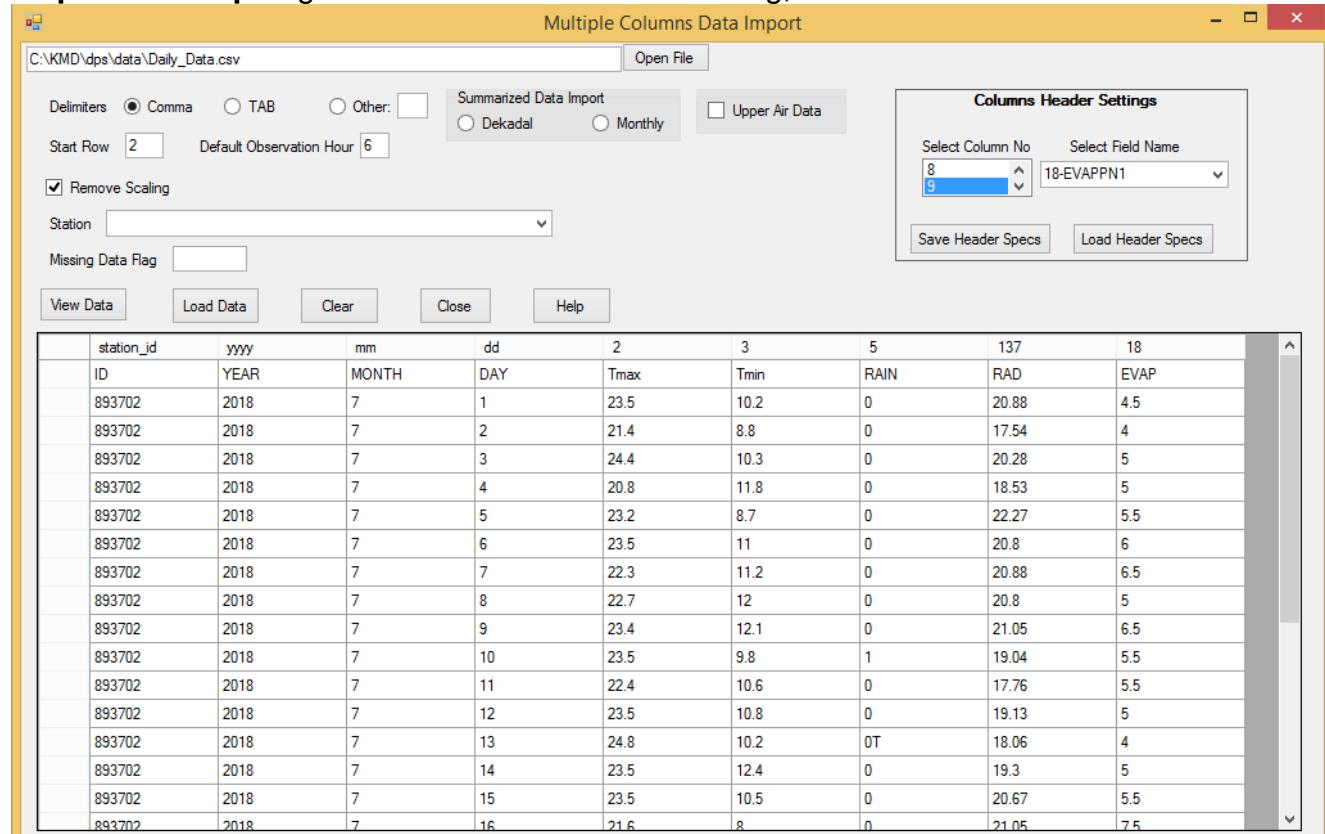

Figure 64: Multiple column data Import with column headers specification
- (iii) If the header specs had earlier been saved then click “**Load Header Specs**” and select the file containing those header specs. If the correct file is selected, the columns for the displayed data table are labelled automatically as shown in *Figure 64*,